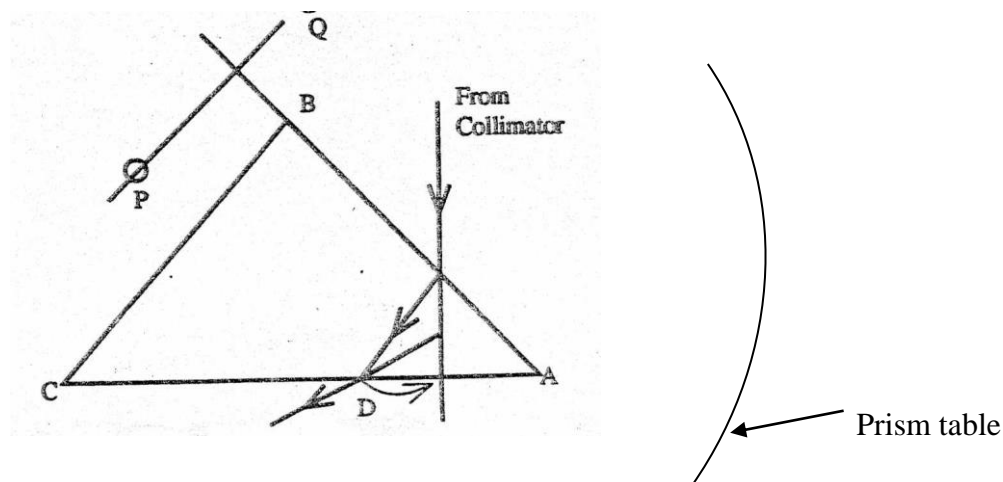

Fig. 26
7. Mount the prism centrally on the table such that one of its reflecting faces, say **AB**, is perpendicular to the line joining the two leveling screws **P** and **Q**. (See **Fig. 26**)